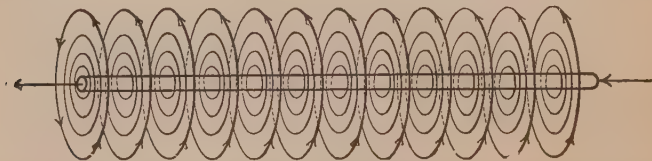

FIG. 132. The magnetic field about a straight wire carrying a current.
**65. Field About a Straight Wire.** When an electric current flows along a straight conductor, a circular magnetic field is formed around it as shown in Fig. 132.